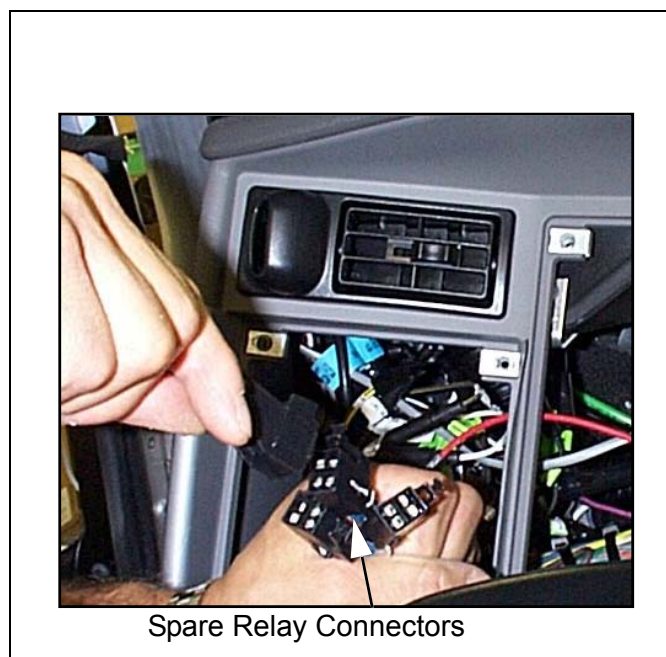

**Figure 15-8**
3. Plug one end of a K333-127-2 pigtail harness into the appropriate spare circuit bullet connector. See Figure 15-8.